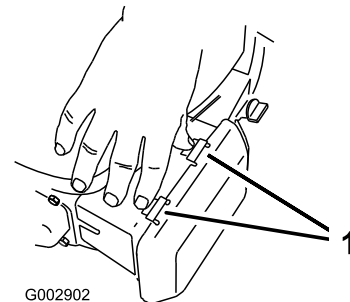

Figure 23
1. Press down on the latch tabs on top of the air-cleaner cover (Figure 23).